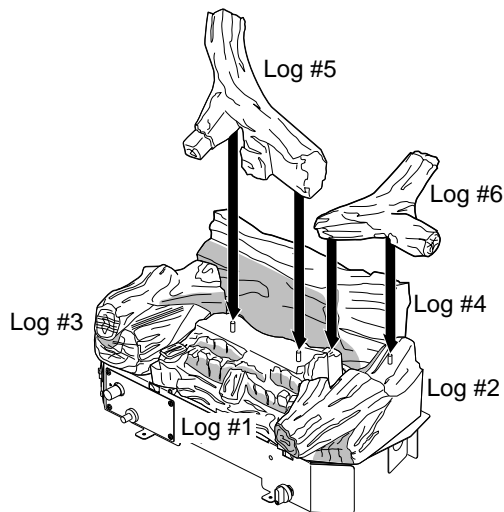

Figure 27 - Installing Log #5 and Log #6
5. Locate hole on bottom of log #5 and place over pin in rear of ember bed (log #1). Log #5 will rest on log #2 and log #4 as well (see Figure 27)
6. Place log #6 onto two pin on log #1 (ember bed) and rest back of log #6 on back log #4 (see Figure 27).